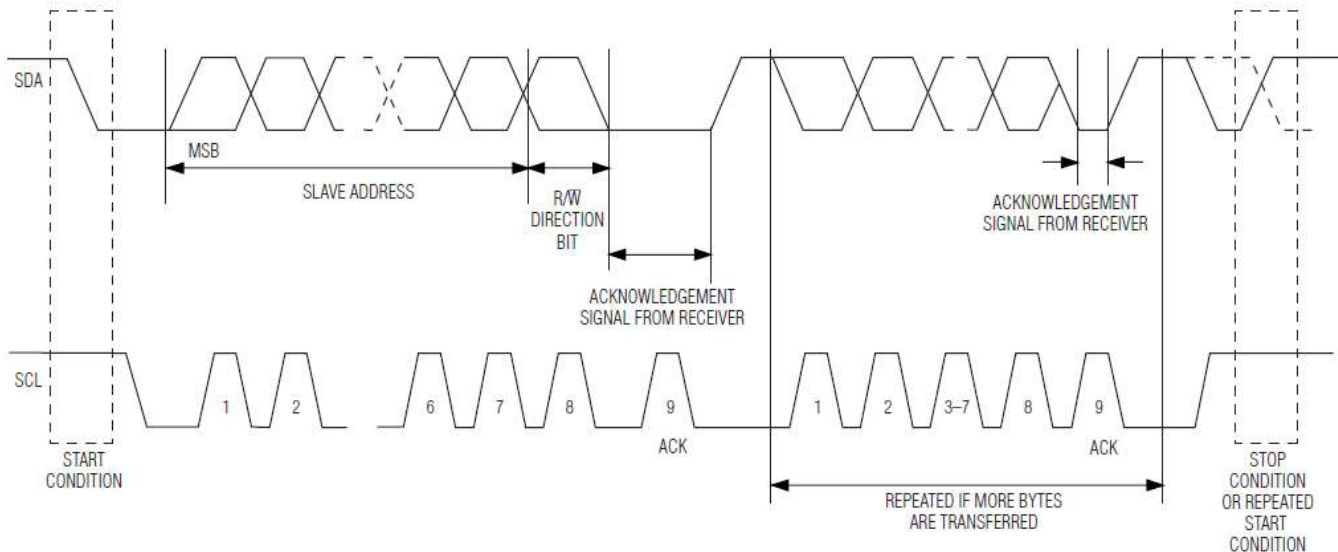

Figure 6 . 2-Wire Data Transfer Protocol
The 2-wire serial-port interface supports a bi-directional data transmission protocol with device addressing. Connections to the bus are made through MOD_DEF2 and MOD_DEF1. Timing diagrams for the 2-wire serial port can be found in Figures 6. Within the bus specifications, a standard mode (100kHz clock rate) and a fast mode (400kHz clock rate) are defined. The Module works in both modes.
- **Data valid:** The state of the data line represents valid data when, after a START condition, the data line is stable for the duration of the high period of the clock signal. The data on the line can be changed during the low period of the clock signal. There is one clock pulse per bit of data. Figures 6 detail how data transfer is accomplished on the 2-wire bus.
- **START Condition:** A high-to-low transition of MOD_DEF2 with MOD_DEF1 high is a START condition that must precede any other command. See the timing diagrams in Figures 6 for further details.